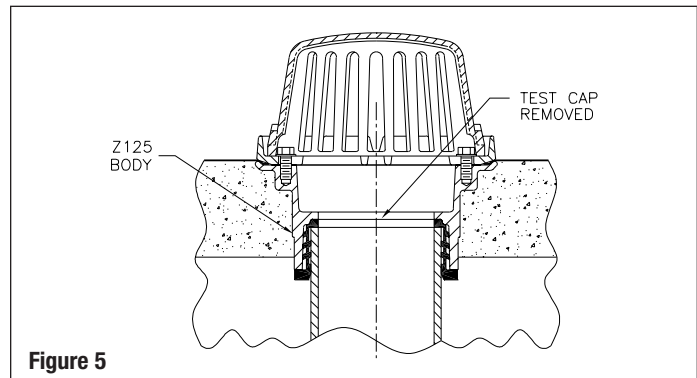

Figure 5
5. Figure 5 shows a finished installation of the gasket after testing has been completed.